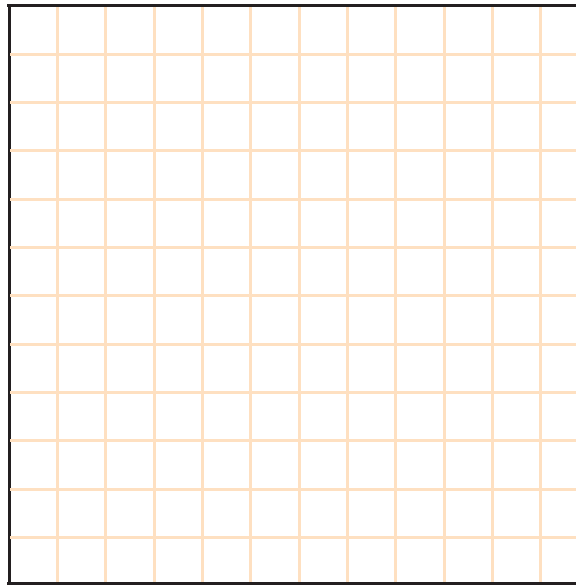

Figure 1-14. Linear and S-curve acceleration characteristics.
- 18. Plot the curves showing the linear and S-curve acceleration characteristics in Figure 1-14. Place the Time in the X-axis, and the Frequency in the Y-axis.